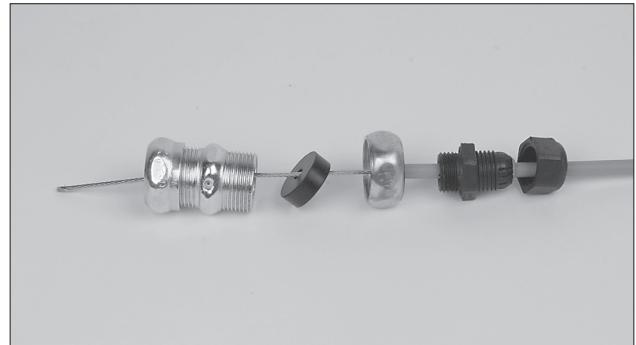

FIGURE 5-98
2. Install the strain relief nut, strain relief, compression union nut, flexible conduit insert and compression union over the flexible conduit with the wire rope installed. See Figure 5-98.